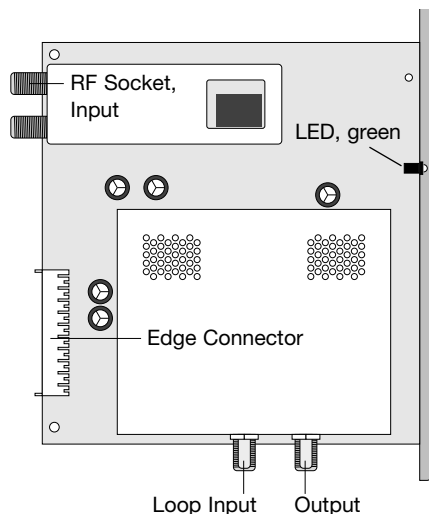

Fig. 4: Connections of a DVB Module
- The RF socket(s) on the rear of the modules engage with the mating RF plug(s) on the input distribution panel, see Fig. 4.